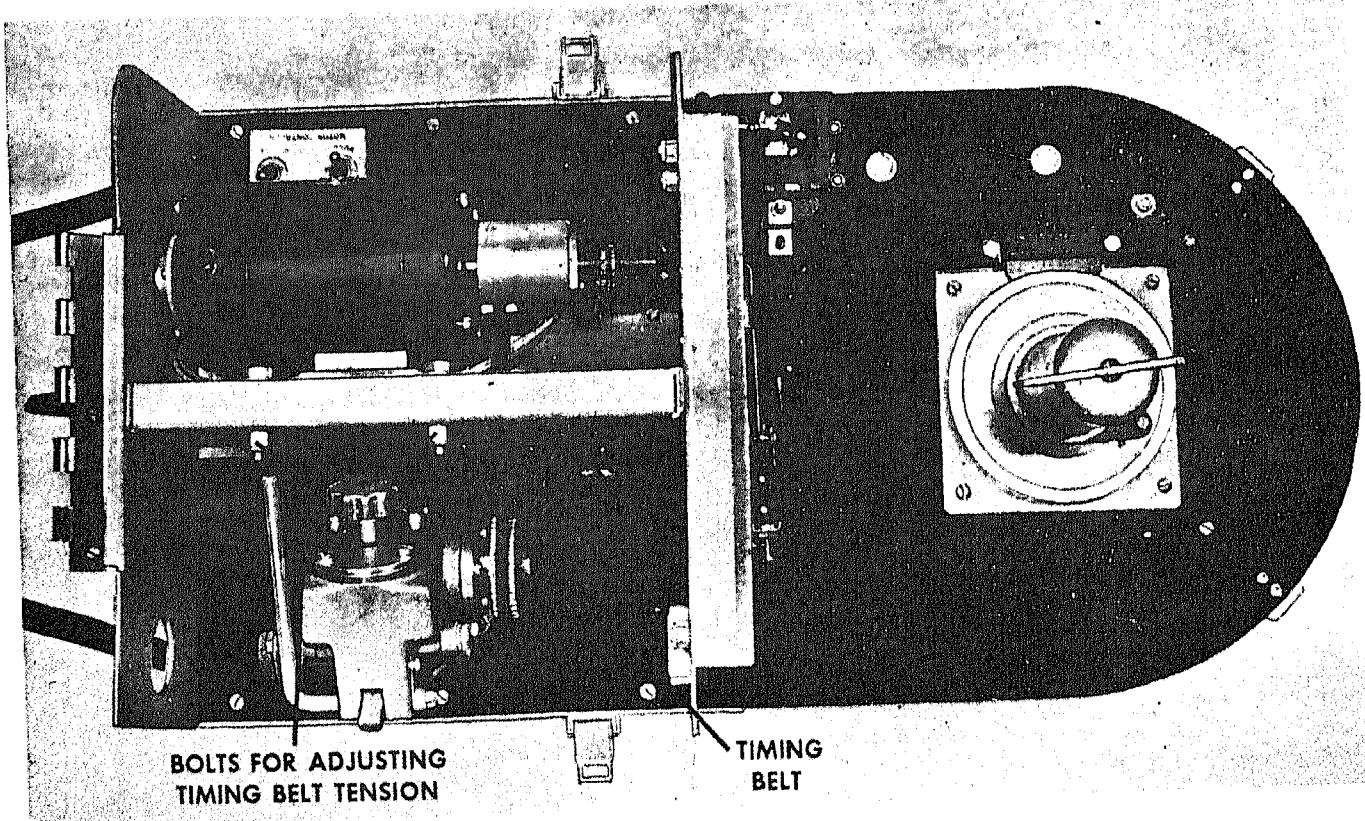
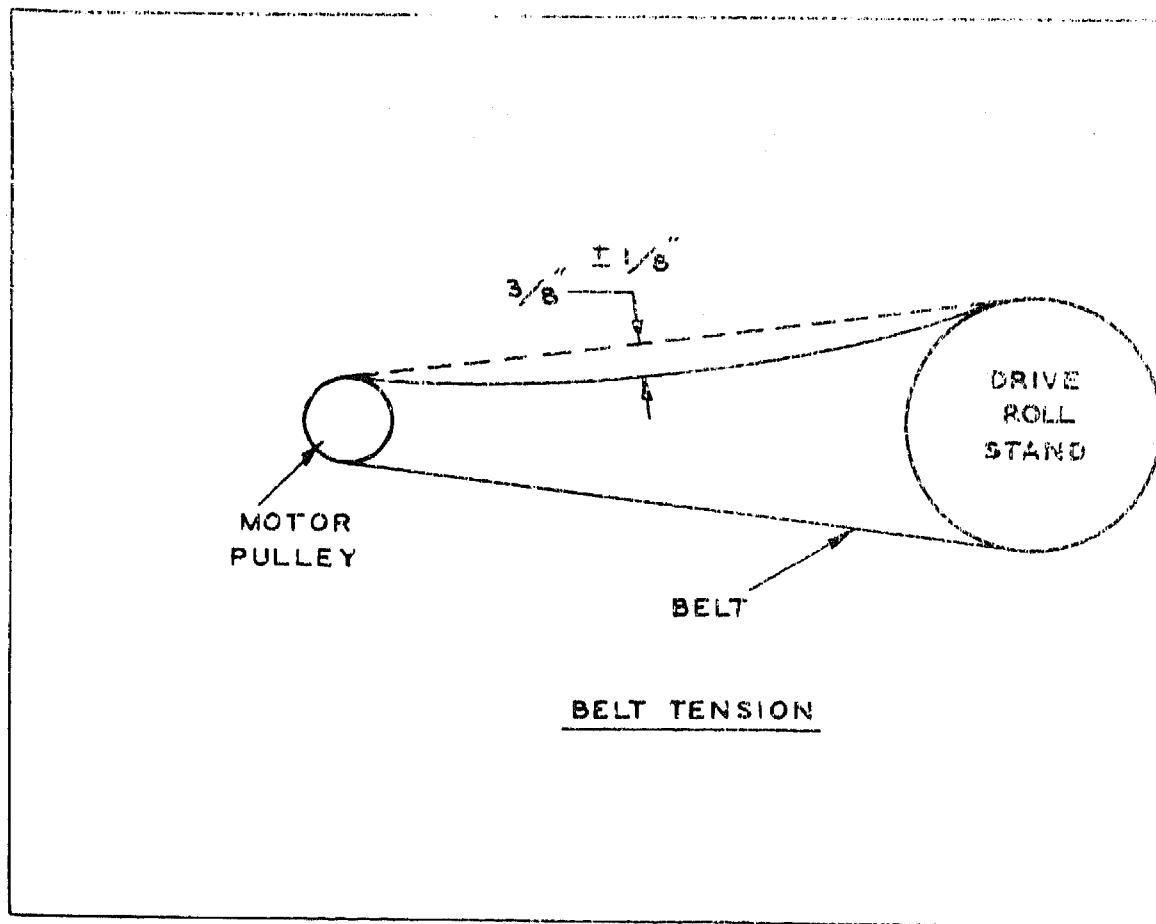

Figure 15. Timing Belt Adjustment
Figure 16. Adjustment Point for Timing Belt
- d. Replace timing belt (Fig. 15) if worn or frayed. Check for proper belt tension.
adjustment of the timing belt tension. To replace the belt, it is not necessary to disturb this adjustment. The belt is eased off the pulleys and removed when the adapter is taken off the motor. Belt adjustment, however, is necessary whenever a motor is replaced. Adjust the timing belt (Fig. 15) by turning the motor mounting bolts until the tension on the belt is as shown in Figure 16. Make sure the motor is approximately parallel to the motor support, or the belt may run off the drive roll pulley.